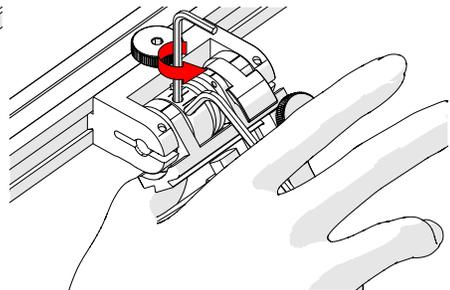

Fig. 162 - Press 3 mm hex wrench down
5. Lightly press the long arm of the 3 mm hex wrench down. Using the 2 mm hex wrench, loosen the force adjustment screw but do not remove it (Fig. 162).